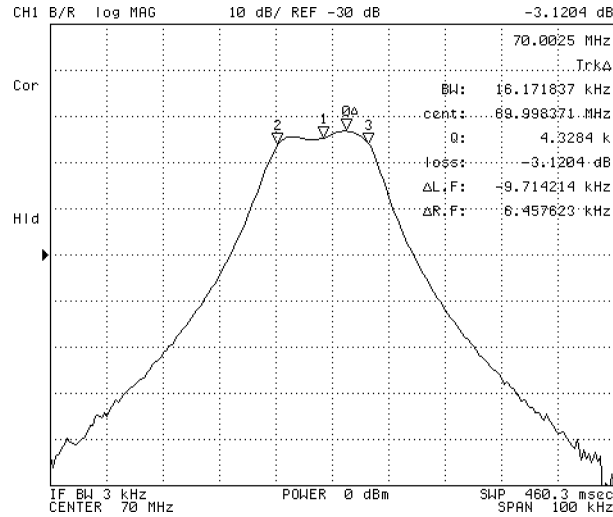

Figure 8-11. Bandwidth Measurement Using Width Function
As shown in Figure 8-11, a pair of sub-markers appear on both sides of the reference marker, being lowered by the specified number of levels; also, another sub-maker is displayed in the middle between the two sub-markers. The bandwidth (BW), center frequency of the bandwidth (cent), Q factor (Q), insertion loss (loss), and left and right hand bandwidth (ΔL.F and ΔR.F) are displayed at the upper right corner of the grid.